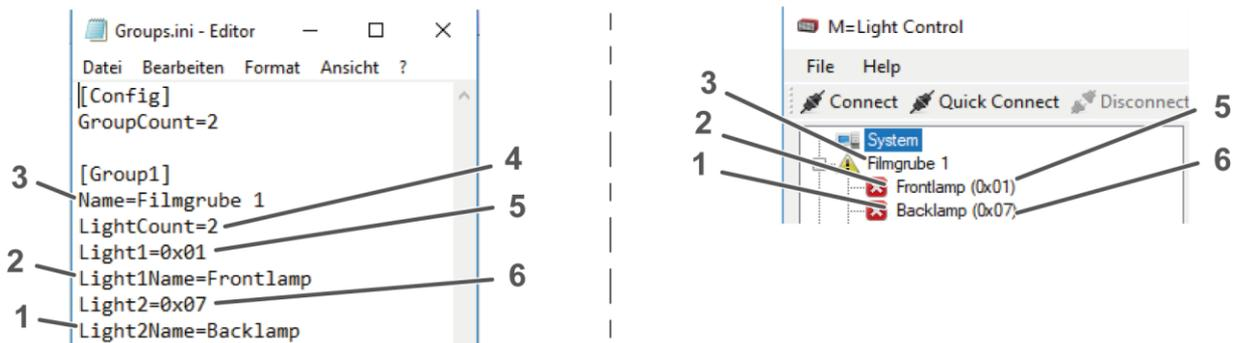

Figure 43: Groups.ini
- ✓ Grouping in the M=LIGHT Control Explorer appears as defined in the `Groups.ini` (Figure 43, Page 50).